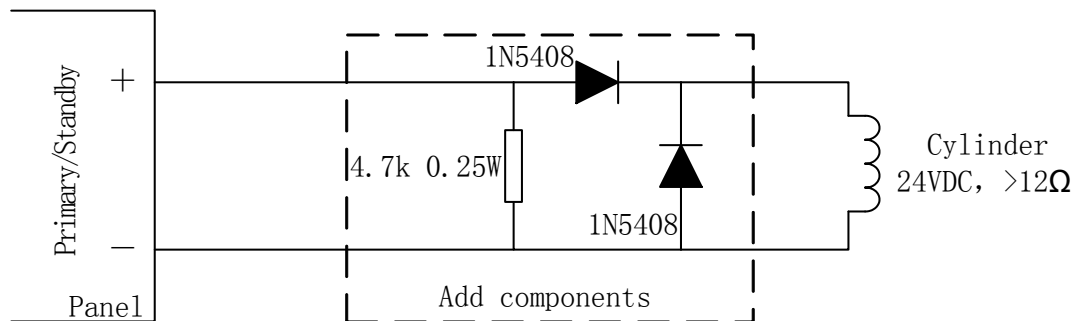

Fig. 11 Wiring method when driving cylinder is of active output mode
d) Wiring method when driving cylinder is of active output mode is shown in Fig. 11.